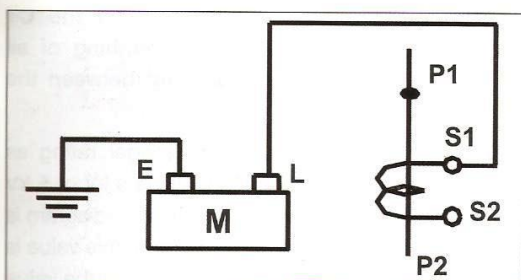

Fig 4 Secondary to Earth
- 3 Secondary to Earth: Refer Fig 4. The minimum acceptable value is  $1 \text{ M}\Omega$ .